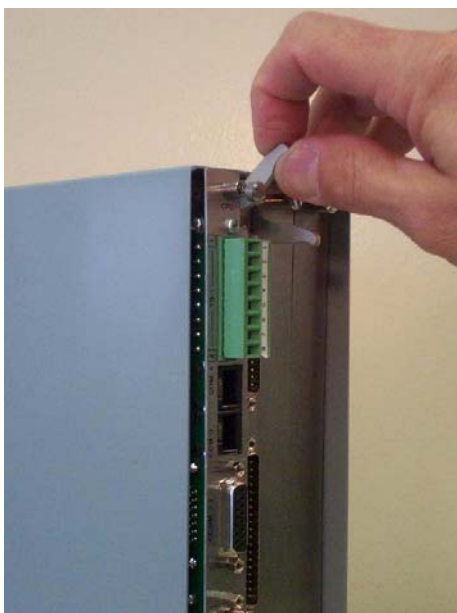

Figure 2-9. Using the Ejectors
3. Unlatch the ejectors for the appropriate board and pull the board clear of the case. You may need to rock the board slightly to release the connectors (refer to Figures 2-9 and 2-10).